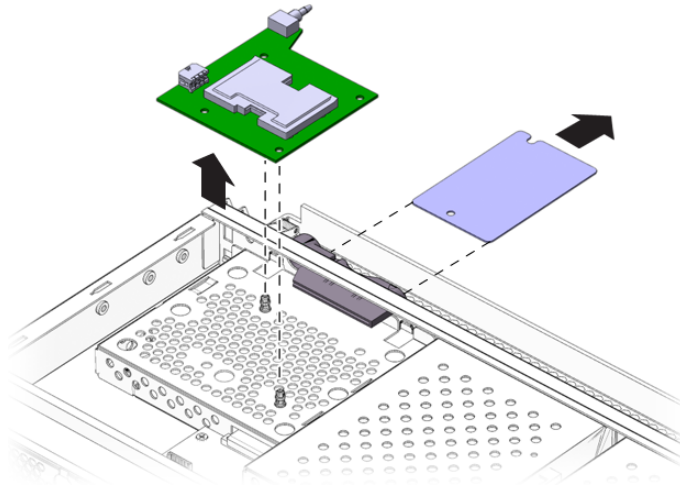

FIGURE 1-9 Removing the System Configuration Card Reader
Place the system configuration card aside (FIGURE 1-9).
6. Unclip the system configuration card reader (FIGURE 1-9).